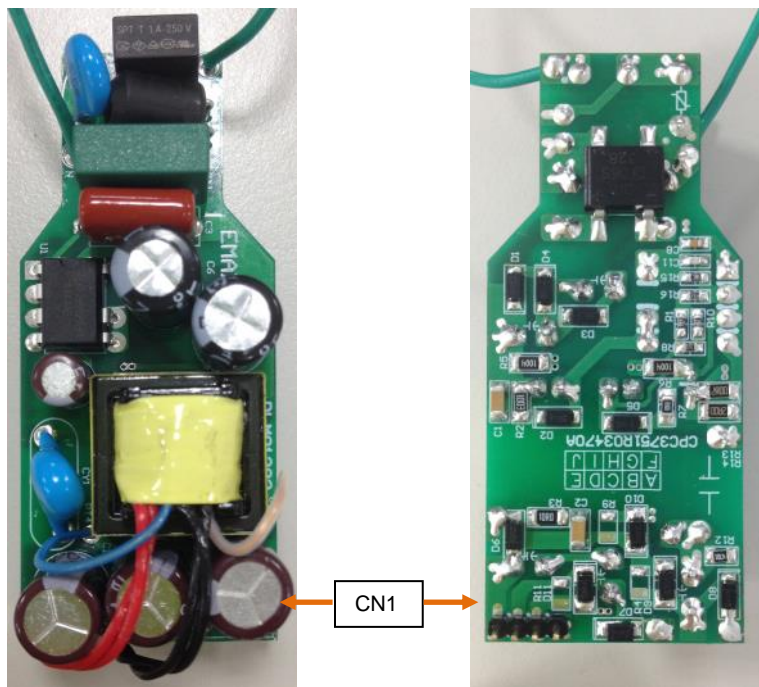

Figure 3 - AP3983C Power Board (58mmx27mm)
The PB design (Figure 3) is based on AP3983C PSR AC/DC Switcher IC (integrated MOSFET switch) (refer to the Key Component Section) to be capable of power rating up to 12W. In the AL179x family, for 350mA channel current, the maximum LEDs (voltage headroom) is 0.4V. To support four emitter strings with adequate voltage headroom to Forward Voltage Drop (VF) and attached MCU power, the PB outputs three CVs: